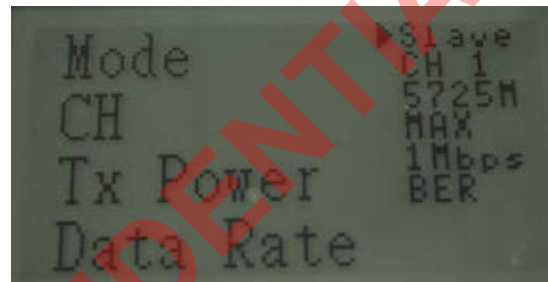

Fig.2
2. Press 'Enter' button, the cursor jumps to Sub Menu as shown in Fig.2.